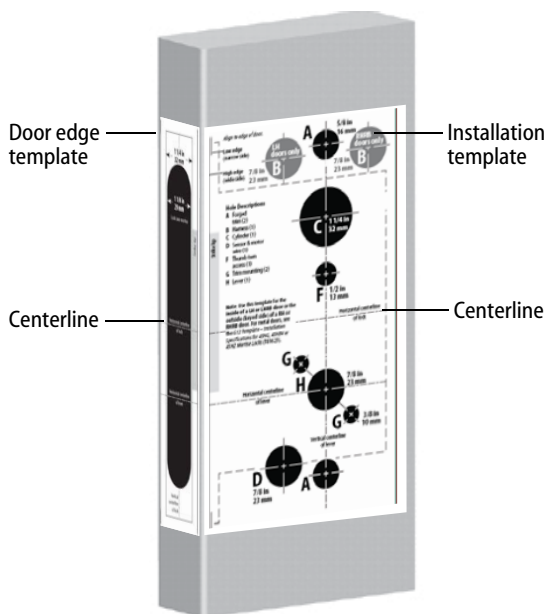

Figure 1 Aligning the templates
- 3 See the *Holes by Function* table and Figure 1 to determine the holes to be drilled for the lock function.